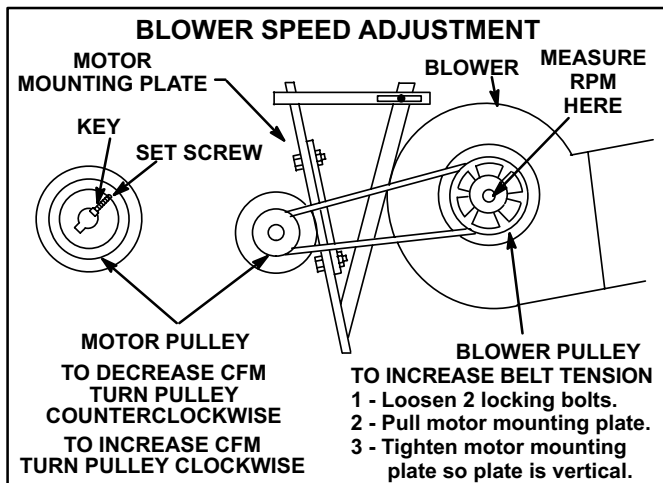

FIGURE 28
- 3- Measure indoor blower wheel RPM (figure 28).
- 2- Loosen the set screws on motor pulley and remove key as shown in figure 28.